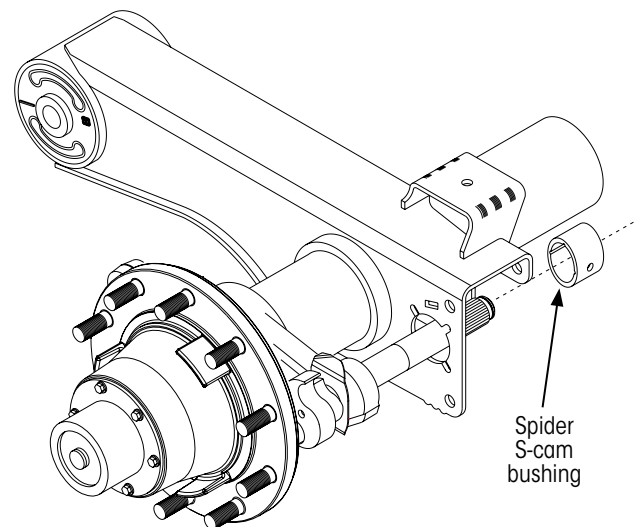

Figure 16: Installing the spider S-cam bushing
2. **Slide** the spider S-cam bushing onto the S-cam (Figure 16).